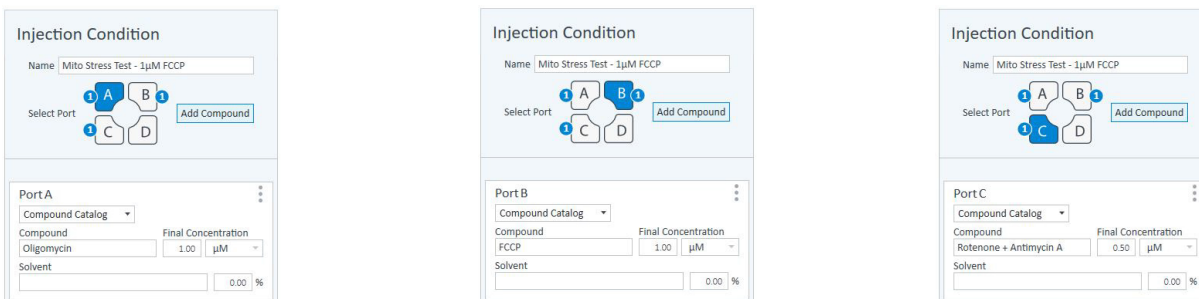

Figure 6 Assign injection ports
- Next, specify the contents of each injection starting with Port A. Click **Add Compound**, and type in a compound name (for example oligomycin), or use the **Compound Catalog** drop-down menu to select a compound from the catalog. (See Figure 6.)